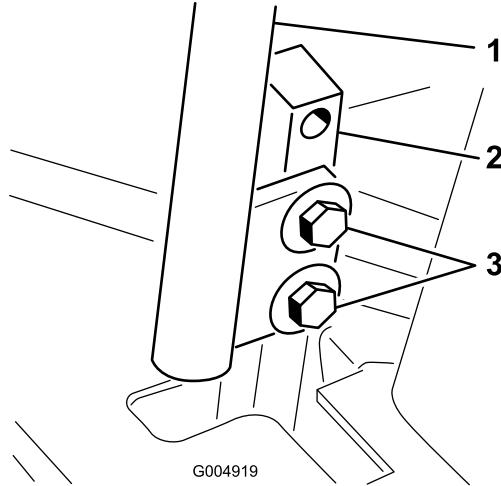

Figure 58
3. Loosen the bolts securing the control levers (Figure 58)